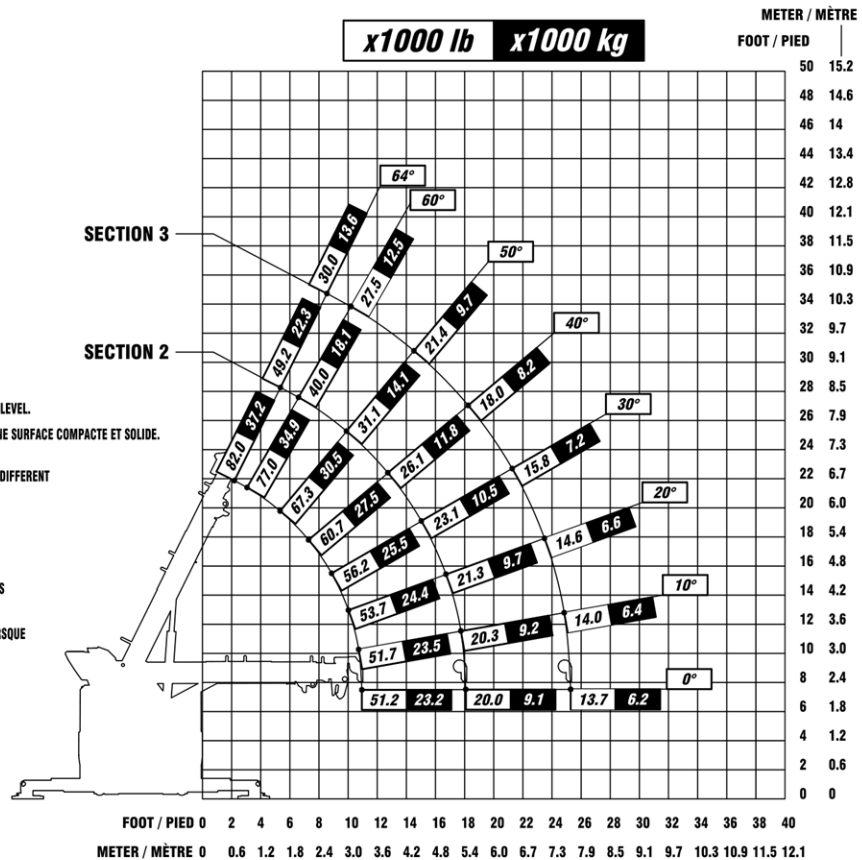

FIGURE 16 – LIFTING CAPACITY OF THE CSR50 FROM THE SIDE
- Figure 16 — Lifting Capacity of the CSR50 from the Side